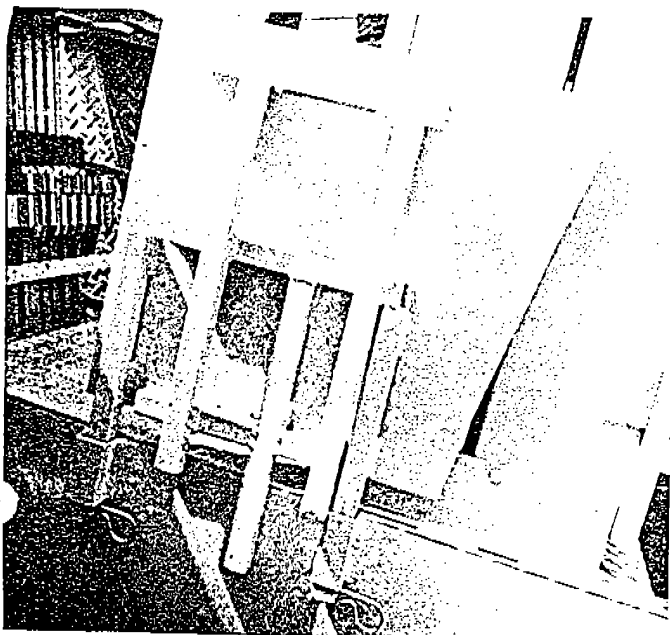

Fig. 80
- Store the side extensions to the bridge in the sockets on either side of the control console. (Fig. 80)